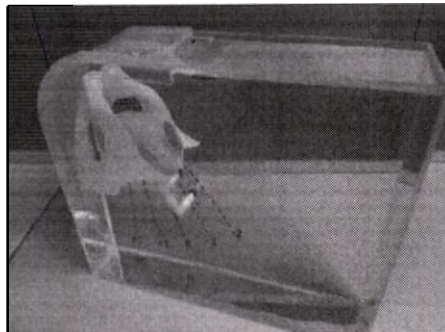

Figure 46. Filling of simulator container to the brim.
1.2.4. Continue to fill the container with water to the brim, avoiding the formation of bubbles. Close with the lid (Fig. 46):